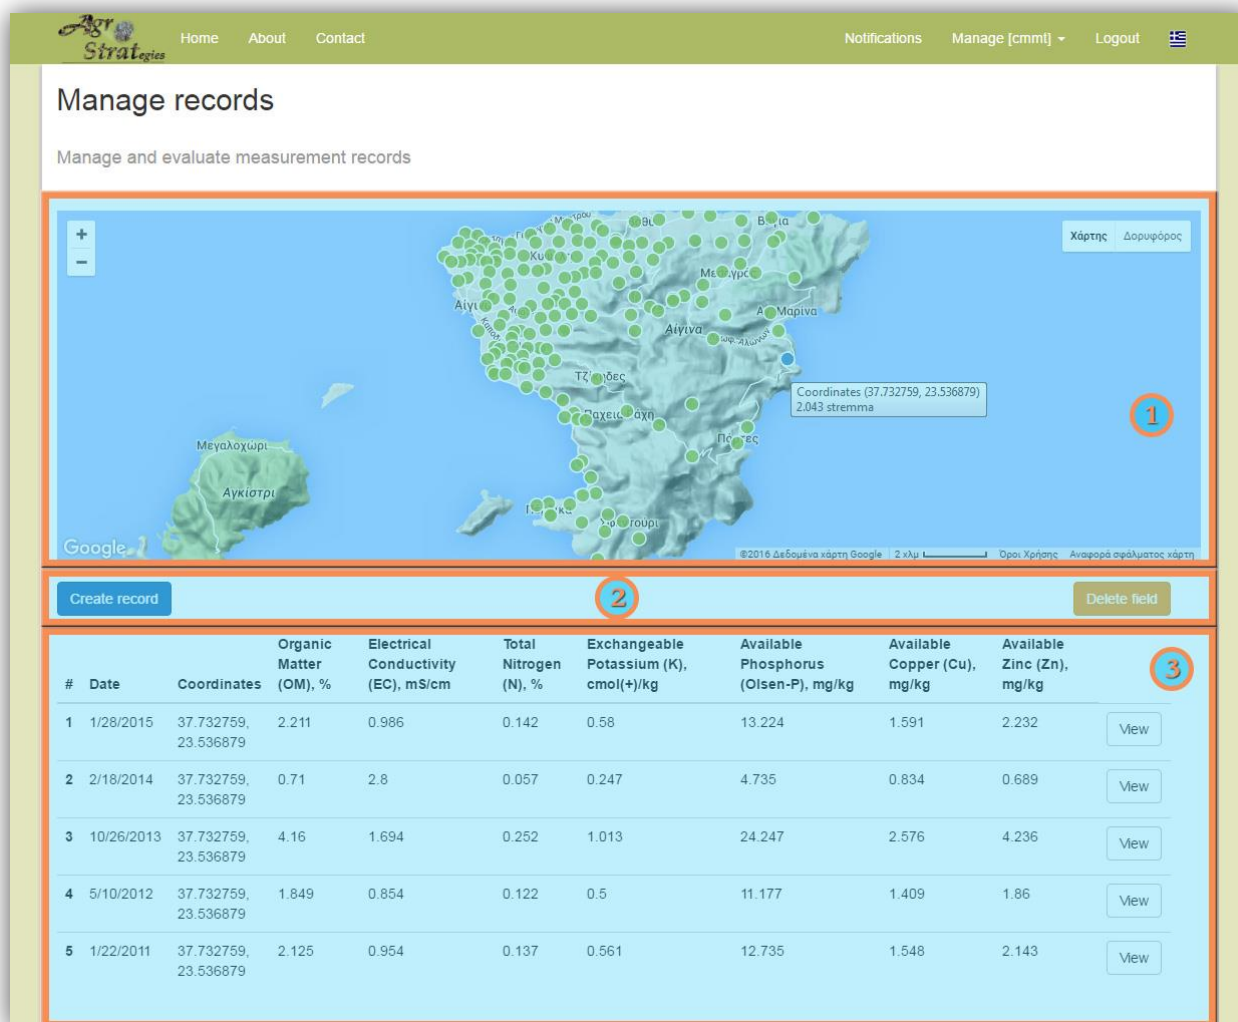

Figure 9. Data management main screen
CMMT data management page is accessed either from the “Manage” shortcut menu by selecting the “Measurements” link, or by the CMMT home page by selecting the “Management” link on the “Main screen” (Figure 2). Data management main screen is illustrated in Figure 9 below.
corresponding field marker on the map, as illustrated in Figure 9. Finally, measurement data page can be accessed by clicking on the “View” button of the respective measurement in the list (3).
When a CMMT user clicks on the “Create record” button on the CMMT data management main screen (Figure 9), the “Create measurement” main screen is displayed, as illustrated in Figure10 below.
In the third area **(3)**, the user can post the inserted measurement data to the system, by clicking on the corresponding “Create measurement” button, or “Cancel” the measurement creation process and be redirected to the data management main screen (Figure 9).
The CCMT user can view measurement data page by clicking on the “View” button of the respective measurement on measurements list area **(3)** of the data management page (Figure 9).